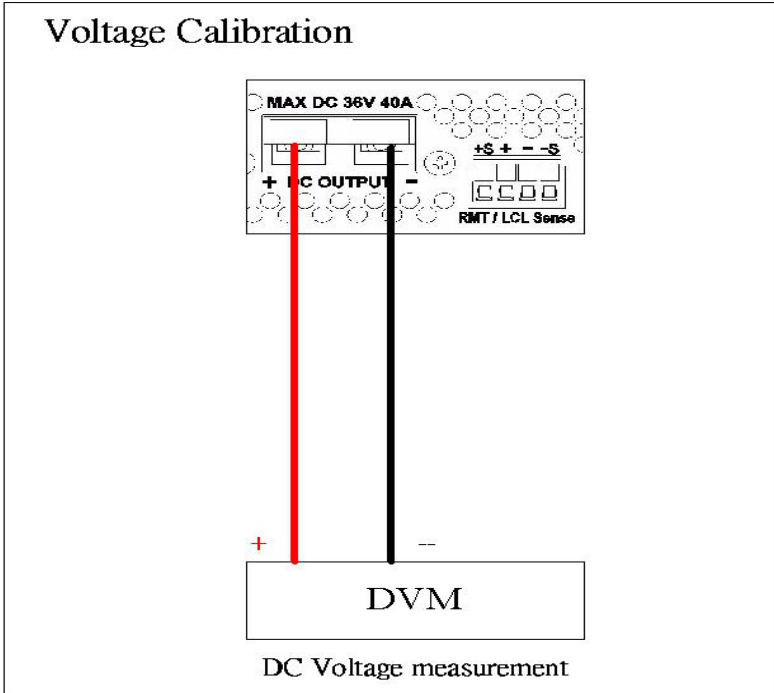

Figure 1
- A. Connect power supply output terminal to DVM (as shown in Figure 1 below). Turn on the supply. Once the unit enters the main page, press **MENU** and select “8. Calibration” and key in